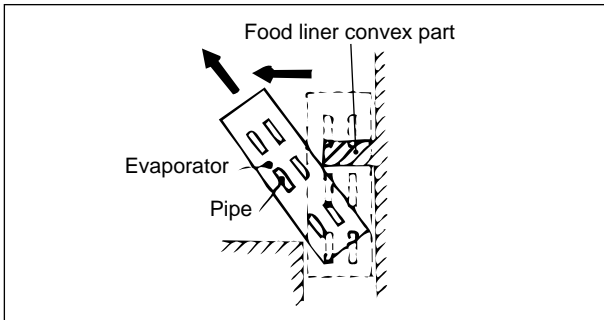

Fig. A-22
2. As shown in Fig. A-22, pull the upper part of Evaporator toward you, pull it diagonally so that the pipe of Evaporator does not contact the convex part of food liner.